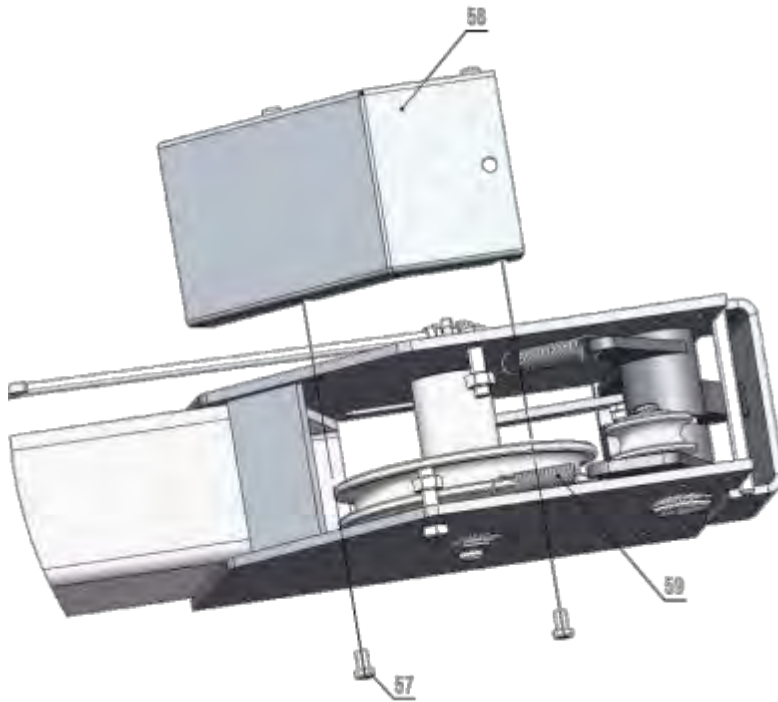

Fig. 27
N. Install spring and beam safety cover of cross beam (See Fig.27).